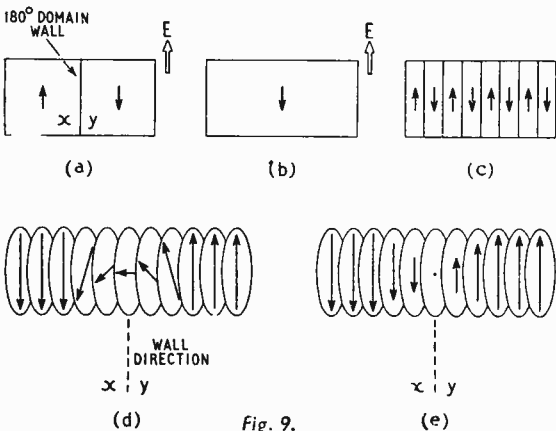

Fig. 9.
In Fig. 9(a) the field  $E$  shown will bodily reverse the polarisation in the domain  $Y$ . The simple theory which disregarded domains, will show how large  $E$  must be to do it, and this field value (which is often enormous) would be the coercive field. But if domain walls are present, they can move, and in Fig. 9(a),  $E$  will tend to cause the wall to move to the right, till the whole crystal is one domain instead
of two. This may be a much easier way to do it than the other, so that the measured coercive field is very much smaller than the value from the simple theory. If a wall is not present (Fig. 9(b)), one may nevertheless form, say at the left edge, if this "nucleation" of a wall happens to be easier than reversal. The wall shown is a "180° wall"; more complicated structures usually occur.
The interplay of these factors affects the polarisation "in" the wall thickness, either in direction or magnitude, in a complicated way. Figs. 9(d), (e) show details of two of the possibilities in the simple case Fig. 9(a). Here I have supposed there are only two easy directions of polarisation: up and down; if this anisotropy is strong the detail suggested in Fig. 9(d) is a strong violation, and the material may prefer 9(e). But the cell sizes change with polarisation, and 9(e) may involve more elastic "discomfort."
**Wall Movements.**—The work done (hypothetically) in forming an imagined domain structure (compare above\*) differs according to where any particular wall is supposed to be. This is partly because the wall area may differ, partly because impurities and local imperfections of the lattice may alter  $\sigma$ , and partly because the bulk of the material would be harder to force into state  $y$  than into state  $x$  (Fig. 9(a)) when  $E$  is present. Also because of the polarisation, there may be "free pole" at the crystal faces, and in some cases also at domain walls; this may be regarded as the source of disturbing fields which affect the work necessary. Ferroelectrics differ from ferromagnetics in this respect because, since they are not perfect insulators, charge carriers can migrate through the material to compensate any free pole if given sufficient time; this
We have seen that the breadth  $2E_c$  of the hysteresis loop is not a simple intrinsic property of the crystal lattice, but is strongly influenced by the domain structure. So are many of the other properties previously discussed in terms of single-domain theory. For example, in Fig. 9(c), the overall  $P$  may be very small, although  $P$  for each layer is large. The dielectric constant  $\epsilon$ , which measures changes of  $P$  in response to changing  $E$ , would be unaltered in such a structure; it may even be a little increased if the walls are free to move sideways so that in a given field the favoured layers increase in size at the expense of the alternate ones. (This contribution of wall motions to the dielectric constant would disappear at higher frequencies because of the inertial property of the wall.) However, the piezoelectric effect of  $E$  is opposite in alternate layers, so that they impede one another's changes of shape and the  $P$  changes are reduced; this reduction in  $\epsilon$  is a clamping effect additional to that which occurs even in a single domain if the frequency used is above the mechanical resonance frequency of the piece of material. Clearly the apparent piezoelectric coefficient of such a structure is also less than the intrinsic one and this decrease will be greater the thinner the layers are.